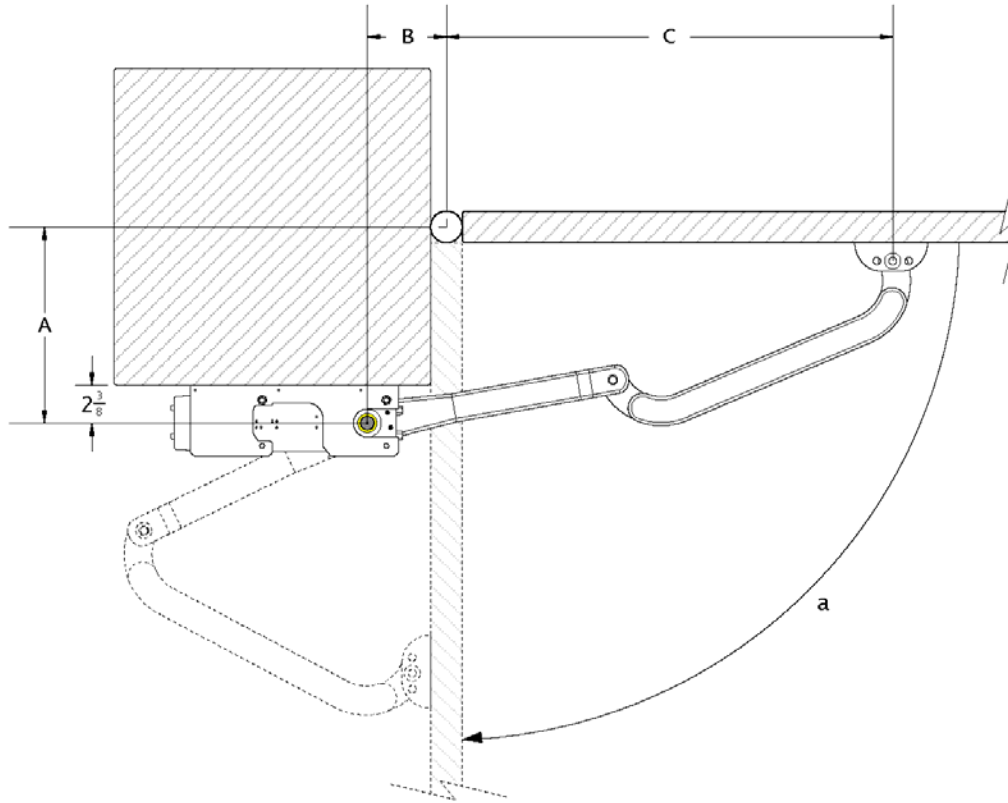

Figure 5. Dimensions for Inward Opening
Install the operator by using the following tables. See figures 5 & 6. The outward dimensions are ideal for an "overhead" outward swinging garage/carriage door.
- * With the operator released, established the position of the front mounting bracket to the gate by checking dimensions C in figure 5 & 6. The bracket can be welded or bolted to the gate leaf. See figure 10